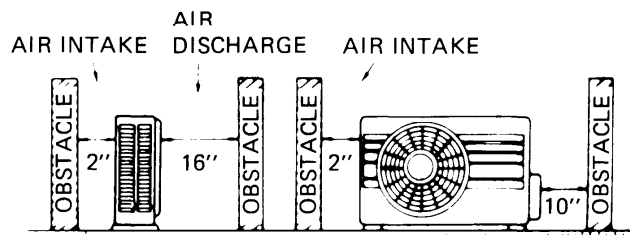

Fig. 3
- allow enough room around unit for air intake/exhaust and possible maintenance. Fig. 3